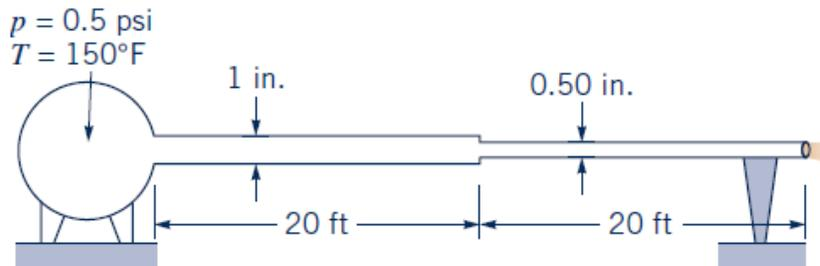

Fig. 6
10. Air, assumed incompressible, flows through the two pipes shown in Fig. 6. Determine the flowrate if minor losses are neglected and the friction factor in each pipe is 0.015. Determine the flowrate if the 0.5-in.-diameter pipe were replaced by a 1-in. diameter pipe. Comment on the assumption of incompressibility.